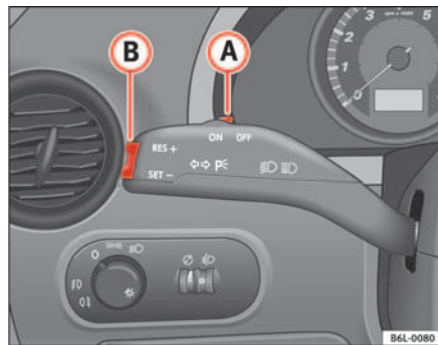

Fig. 99 Turn signal and main beam lever: switch and rocker switch for CCS
- Press the lower part **SET** of the rocker switch ⇒ fig. 99 **A** once briefly when you have reached the speed you wish to set.